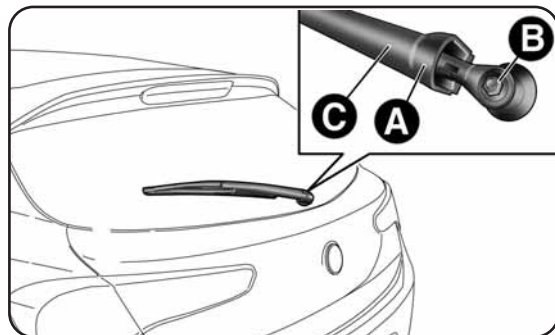

fig. 167
- lift cover A-fig. 167, undo nut B and remove arm C;